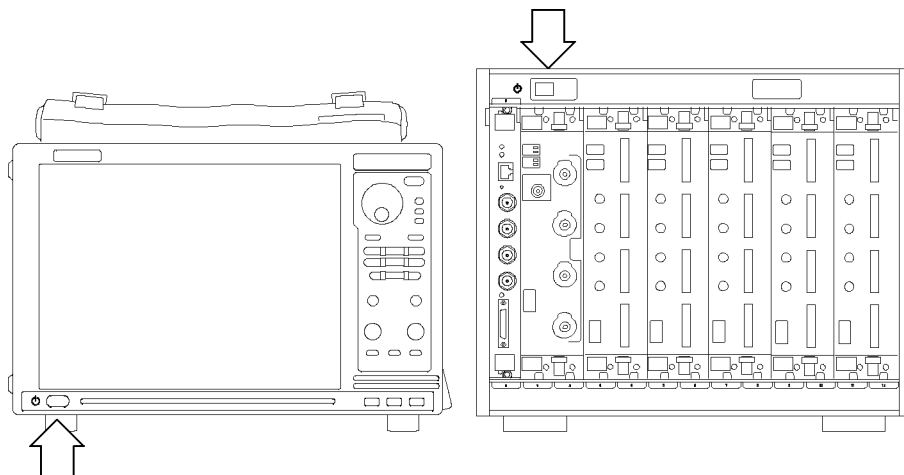

Figure 46: TLA7000 On/Standby switch locations
3. Press the On/Standby switch to turn on the mainframe. (See Figure 46.)